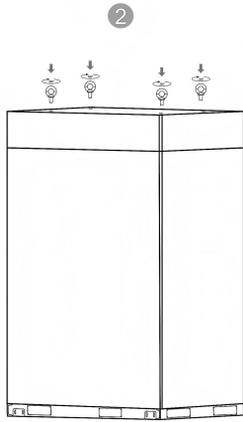
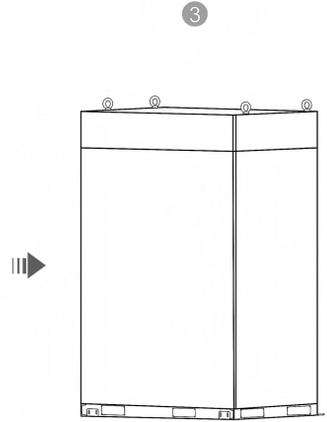

Figure.2
Figure.3
2. Insert the four eye bolts into holes on the top of the machine and then turn them clockwise until they are secured firmly. See the Figure.2 and Figure.3.